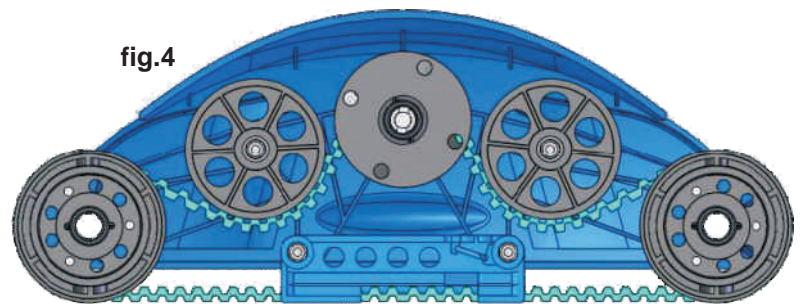

fig.4
(2) Turn the cleaner upside down and remove the Bottom Lid Assembly. Locate and remove the four screws that hold the Side Plate to the main body. The Side plate is now free and ready to be removed.
(3) When the Side Plate is taken apart, you will notice 3 black bushings. It is a good idea to also replace these Bushings when the Drive Tracks are replaced.
(4) After the Drive Tracks and Bushings are replaced, reassemble the Side Plate as shown here. (FIG 4)